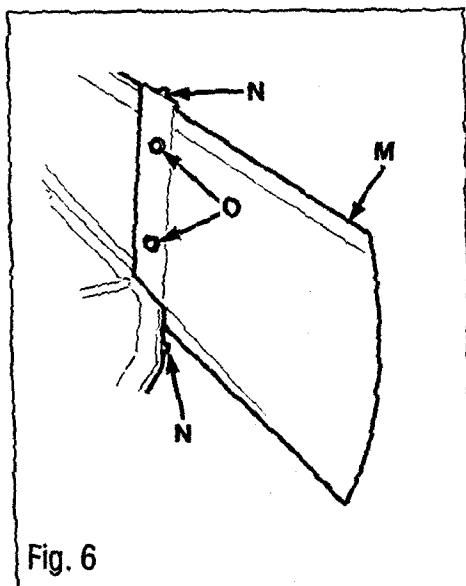

Fig. 6
- Loosely attach ends of discharge chute (M, Fig. 6) inside discharge opening with two 5/16-18 x 3/4 flange screws and 5/16-18 flange nuts (N). The nuts should be on top.
4. Connect front of rod end (U, Fig. 6) to tractor and secure with clevis pin (V) and spring pin (W).